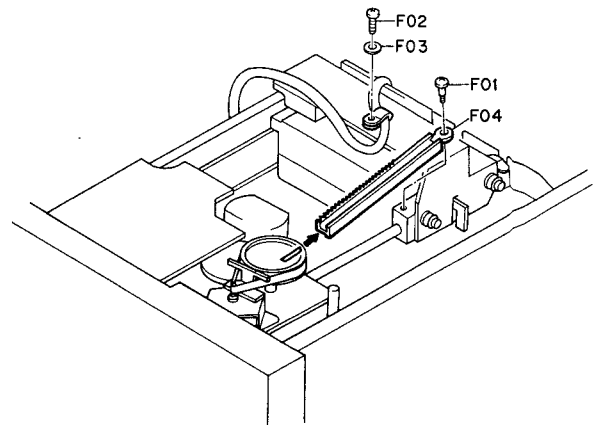

Fig. 2.2
- (3) Remove F01, F02 and F03, and pull out F04. See Fig. 2.2.